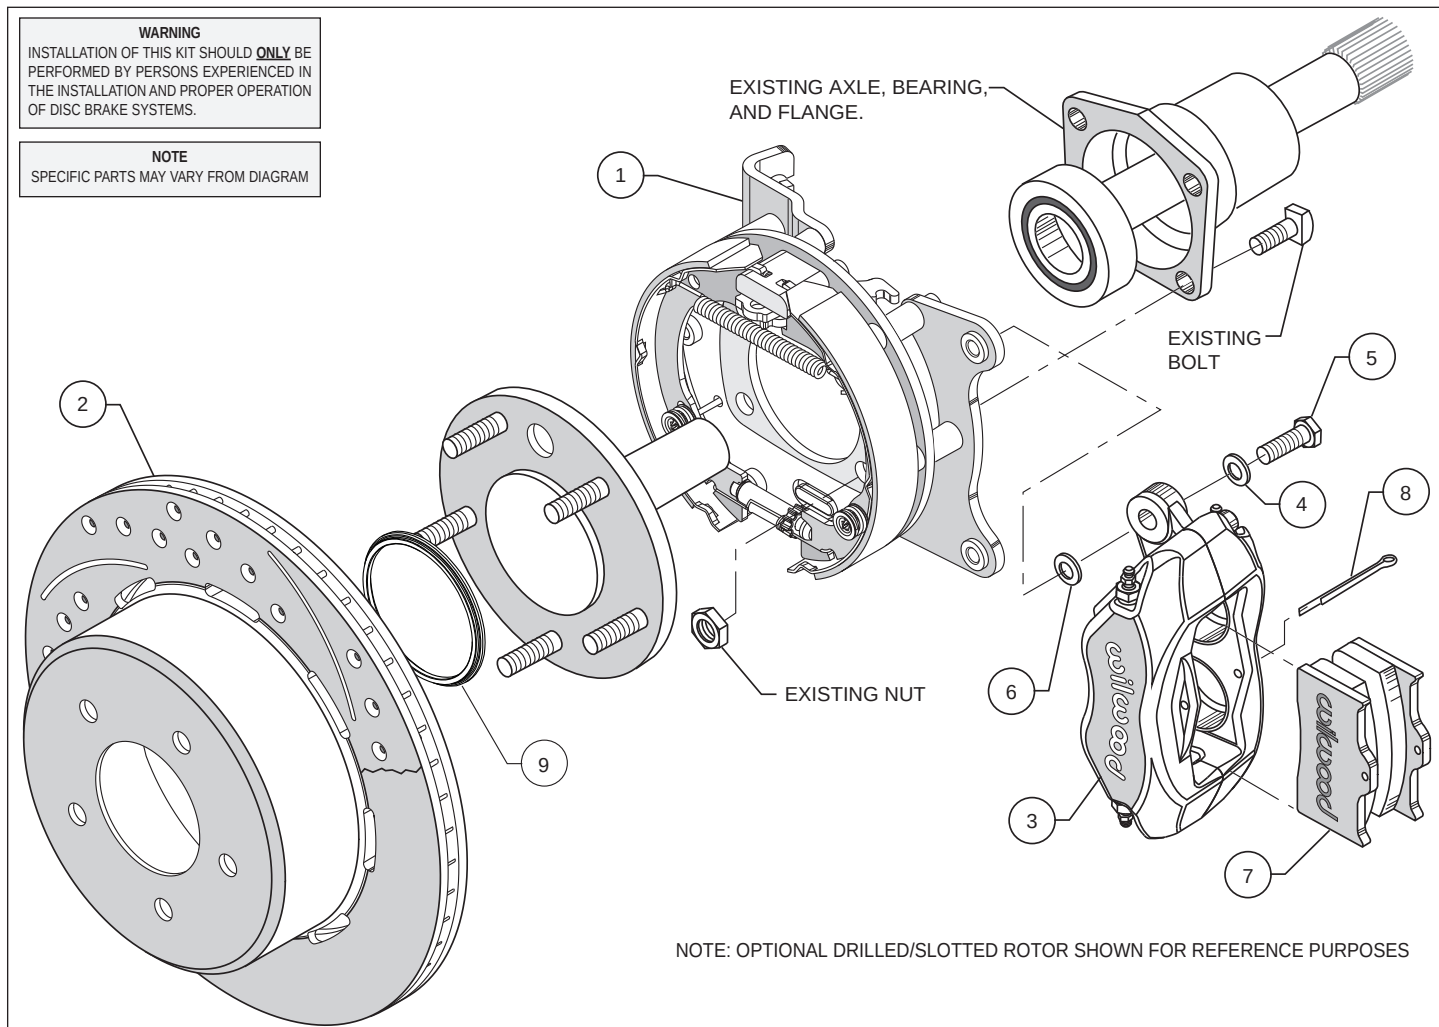
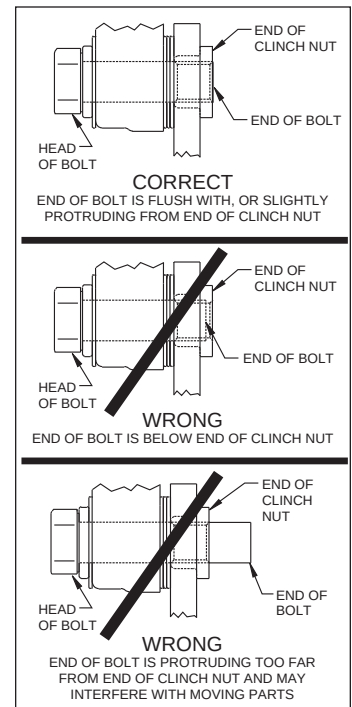

Figure 1. Typical Installation Configuration
Figure 4. Clinch Nut Engagement Diagram
Assembly Instructions (numbers in parenthesis refer to the parts list, and Figure 1 on the preceding pages): **CAUTION:** All mounting bolts must fully engage clinch nuts. Be sure to check that all bolts are either flush or protruding through flanged side of clinch nut after shimming, Figure 4.
- Orient the bracket assembly (1) as shown in Figure 1 and Photo 1 and slide it onto the axle. Insert the axle and bracket into the axle housing. Ensure that the bracket assembly backing plate fits flush against the axle housing flange. Secure bracket assembly to the axle housing flange using the Original Equipment Manufacturer (OEM) bolts and nuts, Figure 1. Apply red *Loctite*® 271 to the OEM bolt threads and torque to OEM specifications.
- Slide the rotor registration adapter (9) onto the axle register on the axle flange with the smaller O.D. facing toward the rotor/hat (2), Photo 2. Align the correct hole pattern in the rotor/hat with the stud pattern on the axle flange and slide into place, Figure 1 and Photo 3. **NOTE:** The rotor/hat must fit flush against the axle flange or excessive rotor run out may result. Install three lug nuts (finger tight) to keep the rotor/hat assembly in place while continuing with the installation. **NOTE:** Some OEM and after market axles come with stud sizes larger than 0.50" diameter. Verify stud size and have a qualified machine shop drill the bolt circle of the hat/rotor to the correct stud size, if necessary.
- NOTE:** Please reference the caution statement at the beginning of the assembly instructions. Mount the caliper (3) onto the caliper mounting bracket (1) using bolts (5) and washers (4), as shown in Figure 1. Initially place two .035" thick shims (6) on each bolt between the caliper and the bracket, Photo 4. Temporarily tighten the mounting bolts and view the rotor (2) through the top opening of the caliper. The rotor should be centered in the caliper, Photo 5. If not, adjust by adding or subtracting shims between the bracket and the caliper. Always use the same amount of shims on each of the two mounting bolts. **NOTE:** The end of each bolt must be flush with or slightly protruding from the head of the clinch nut, as shown in Figure 4. If necessary place spare shims between washer (4) and caliper